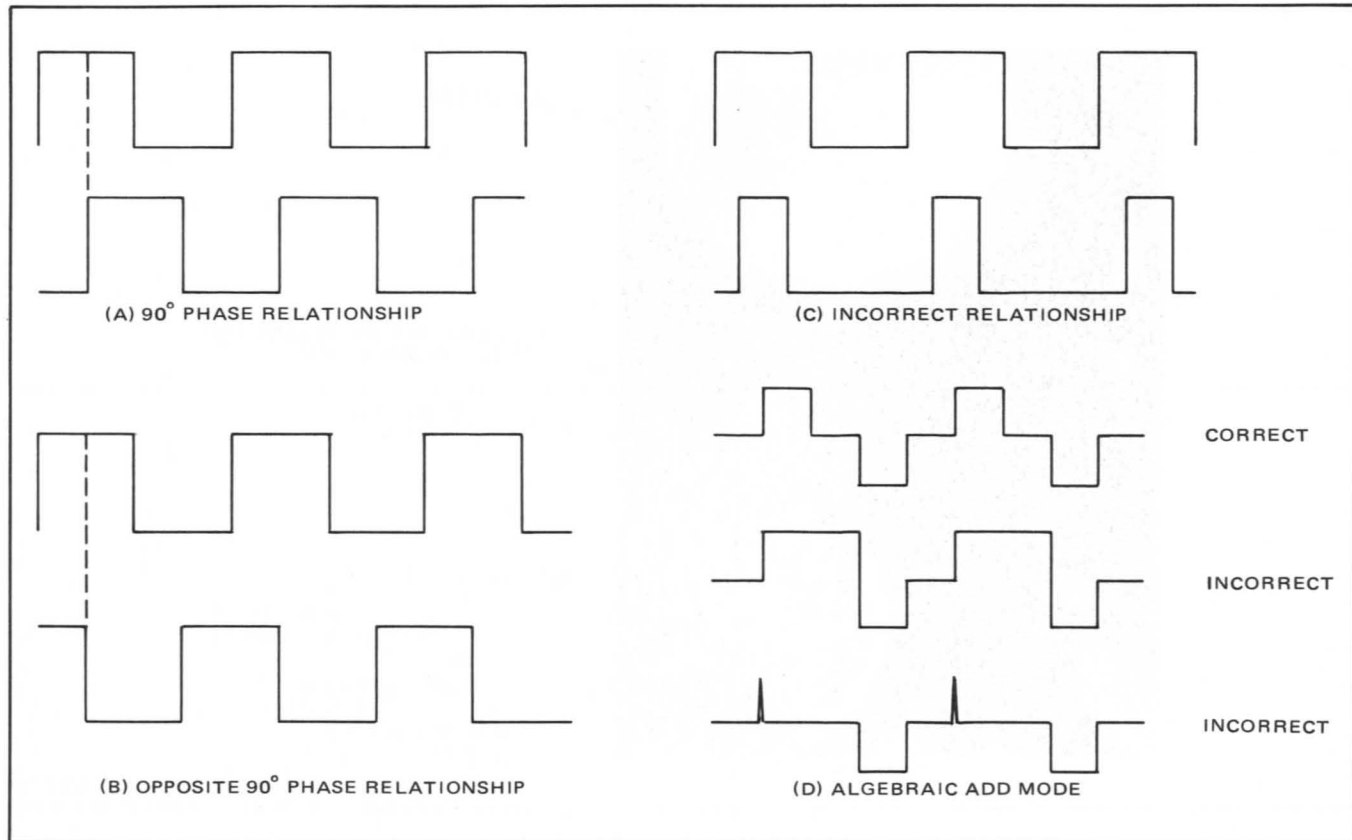

Figure 5-20. TP3 and TP4 Waveforms, PWA No. 8
12. If the preceding measurements of amplitude and phase were correct, but the capstan ran faster when the stop pushbutton was pressed, the capstan servo PWA No. 8 may have a malfunction or the capstan tach sensor PWA position may need to be adjusted to obtain the opposite 90° phase relationship of the signals at TP3 and TP4 (see Figure 5-20 and steps 13 through 29). If any of the previous conditions were not met, proceed to adjust the position of the capstan tach sensor PWA to obtain tach signals of proper amplitude and phase relationship by performing steps 13 through 29.